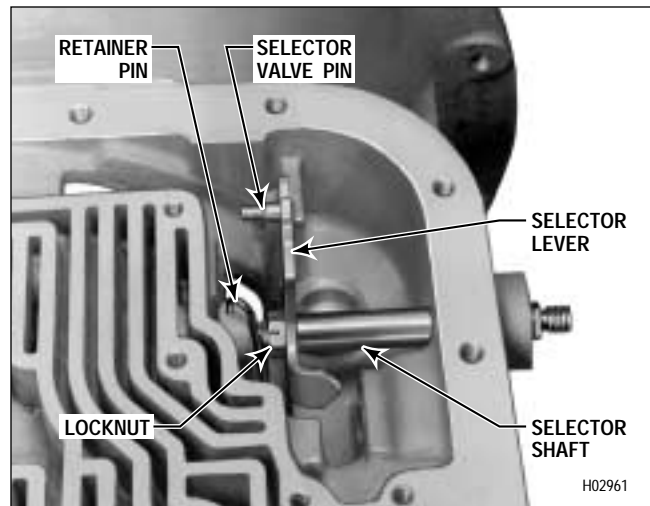

Figure 6-56. Selector Shaft Components
(1) Remove seal 61 (Foldout 12,B) from the transmission housing using seal remover tool J 26401.
(2) To remove the manual shift lever, remove the retainer pin and locknut (Figure 6-56). Begin to pull the selector shaft out of the housing enough to remove the selector lever. **The selector lever may have burred the end of the selector shaft; remove the burr with a small file before removing the shaft from the transmission housing.**
(3) Do not remove snapping 9 (Foldout 12,A) unless replacement is necessary.
(4) Do not remove the breather from transmission housing 11 unless replacement is necessary. It is press fit and should be cleaned while in the housing.
(3) Hold selector lever 54 or 55 (Foldout 12,B) so the selector valve pin is facing the inside of the case. Slide selector shaft 60 through the opening in the transmission housing, oil seal, and into the slot in selector lever 54 or 55. Attach locknut 59 and retainer pin 57 (Figure 6-56). Tighten the locknut to 15-20 lb ft (20-27 N·m).
(4) If removed, press new breather 7 (Foldout 12,A) into the housing.